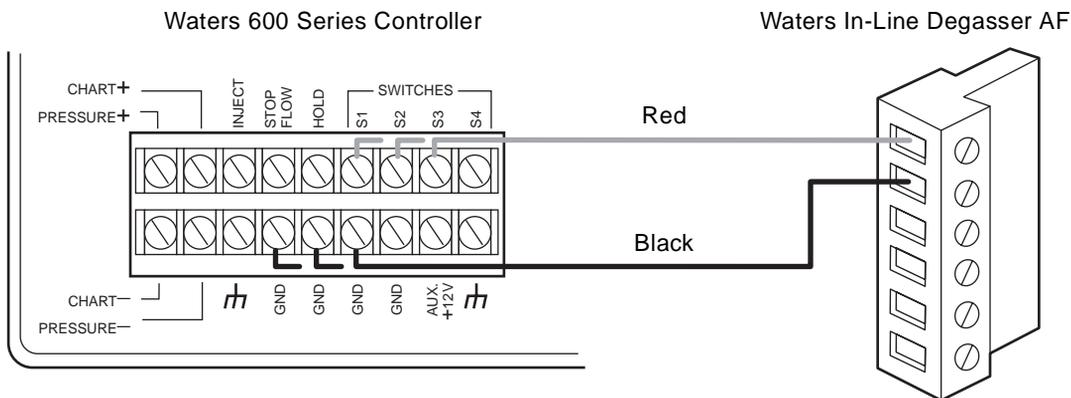

Figure 2-3 Waters 600 Series Controller Connection
1. Use a signal cable (included in the Startup Kit) to make the connections between the In-Line Degasser AF and a Waters 600 Series Controller as indicated in the following table and illustrated in Figure 2-3.